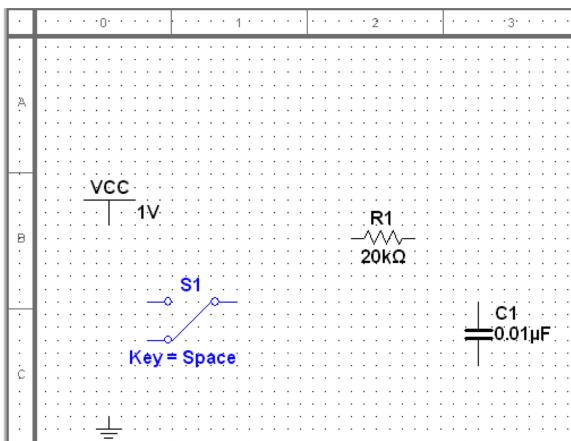

Figure 2: Initial Element Placement
6. (See Figure 2.) Place this resistor in your circuit by positioning the loaded cursor where you want the resistor and clicking (we'll set its value later).
7. Similarly, load the cursor with a capacitor, but use **Control-R** to rotate it before placing it as shown in Figure 2.